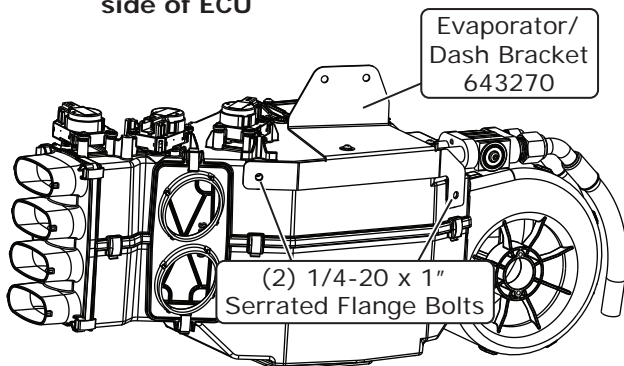

Figure 4
6. Install the evaporator to the evaporator/dash bracket onto the module using (2) 1/4-20 x 1" serrated flange bolts as shown in Figure 4, below.